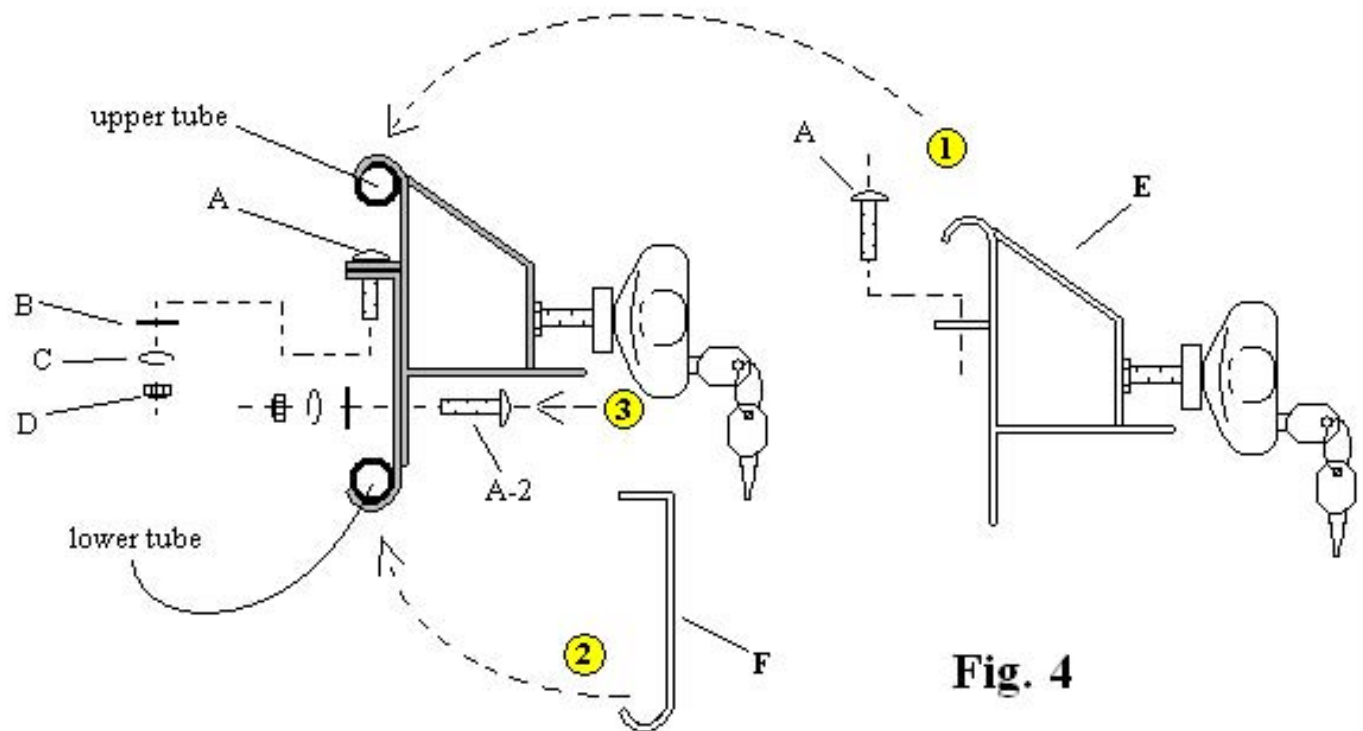

Fig. 4
- 1 - Insert carriage bolt "A" into upper High Lift Jack bracket "E" as shown in Fig. 4, then set bracket "E" onto upper rack tubing also shown in Fig. 4 and hold in place.
- 2 - While holding Upper bracket "E" with one hand place lower bracket "F" onto the lower rack tubing and connect to upper bracket "E" as shown in Fig. 4. After you have placed carriage bolt "A" through lower bracket "F" attach flat washer "B", lock washer "C" and lock nut "D" onto carriage bolt finger tighten only at this time.
- 3 - Place the second Stainless Steel carriage bolt "A-2" through both the upper and lower brackets as shown in Fig. 4 finger tighten the flat washer, lock washer and lock nut onto carriage bolt "A-2" at this time.
- 6 - After aligning both brackets correctly to the High Lift Jack and roof rack, carefully remove the High Lift Jack from the brackets and begin to tighten down carriage bolt "A" then proceed to carriage bolt "A-2" in this order as shown in Fig.4 page 4. Continue in the same order and proceed to the second High Lift Jack bracket until both brackets are fully secured to the Gobi roof rack.